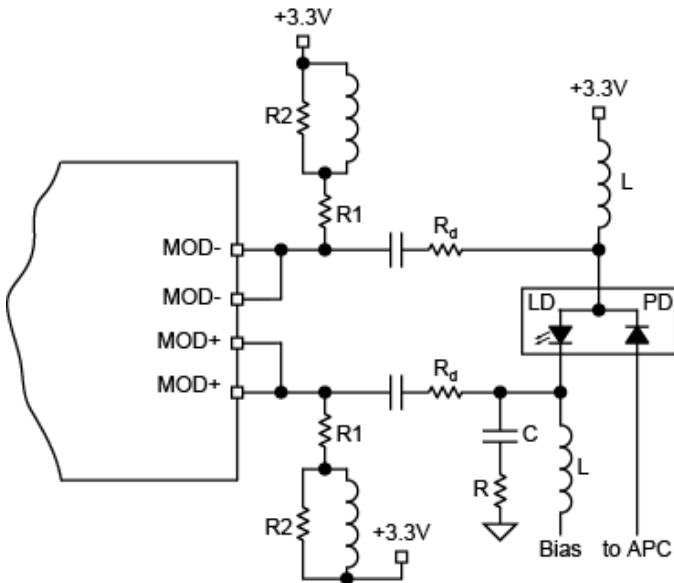

Figure 4. Laser AC-Coupled
On the other hand, the smaller the value of R_d , the higher is the overshoot/undershoot on the optical signal from the laser. In the circuit shown in Figure 4, the RC compensation network across the driver outputs (MOD+ and MOD-) allows the user $R_d = 10\Omega$. The optical eye diagrams at data rates of 1.25Gbps, shown in “Functional Characteristics” section, are all obtained with the same circuit using $R_d = 10\Omega$, $R_{Comp} = 100\Omega$, and $C_{Comp} = 3pF$. The compensation network may change from one board to another and from one type of laser to another. An additional compensation network (RC) can be added at the laser cathode for further compensation and eye smoothing.
When trying to AC-couple the laser to the driver, the headroom of the driver is no longer a problem since it is DC isolated from the laser with the coupling capacitor. At the output, the headroom of the driver is determined by the pull-up network. In Figure 4, the modulation current out of the driver is split between the pull-up network and the laser. If, for example, the total pull-up resistor is twice the sum of the damping resistor and laser equivalent series resistance, then only two thirds (2/3) of the modulation current will be used by the laser. Therefore, to keep most of the modulation current going through the laser, the total pull-up resistor must be kept as high as possible. One solution involves using an inductor alone as pull-up, presenting a high impedance path for the modulation current and zero ohm (0Ω) path for the DC current offering headroom of the driver equal to V_{CC} and almost all the modulation current goes into the laser. The inductor alone will cause signal distortion, and, to improve this phenomenon, a combination of resistors and inductors can be used (as shown on Figure 4). In this case, the headroom of the driver is $V_{CC} - R1 \times \alpha I_{MOD}$, where αI_{MOD} is the portion of the modulation current that goes through the pull-up network.